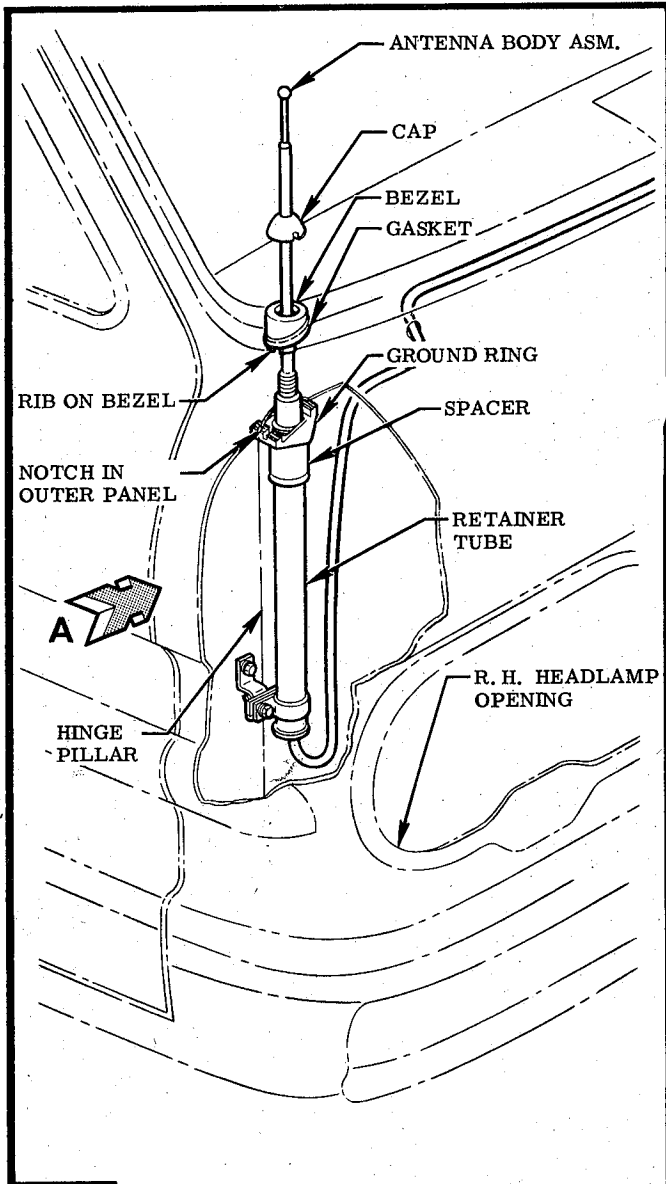

FIG. 1 ANTENNA MOUNTING
STEP 5 SUB-ASSEMBLE GASKET & BEZEL. PLACE GASKET, BEZEL & CAP ONTO ANTENNA BODY ASM., POSITION RIB ON BEZEL INTO NOTCH IN OUTER PANEL. SECURE CAP WITH SPANNER WRENCH. SEE FIG. 1 & VIEW A.
STEP 7 ASSEMBLE CLIP, BRACKET & "U" NUT TO RETAINER TUBE AT DIMENSION SHOWN WITH ONE OF PROVIDED SCREWS. USING BRACKET AS A TEMPLATE, DRILL HOLE IN HINGE PILLAR & ATTACH BRACKET TO PILLAR WITH REMAINING SCREW. SEE FIG. 1 & VIEW A.